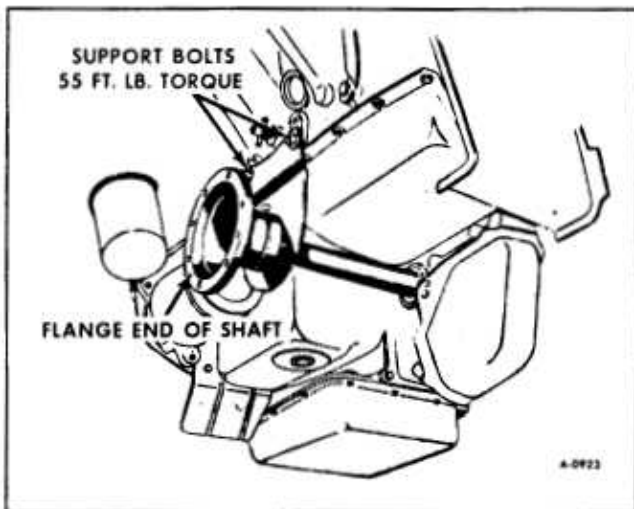

Figure 3—Aligning R.H. Output Shaft
3. Remove inner C.V. joint attaching bolts. (figure 3)
**IMPORTANT:** When attaching the right hand output shaft to the engine bracket, do not let the shaft hang. Referring to Figure 3, assemble bracket bolts loosely, and by moving the flange end of the shaft up and down, and back and forth, find the center location. Hold the shaft in this position and then torque the bolts to 55 ft. lbs. on support.